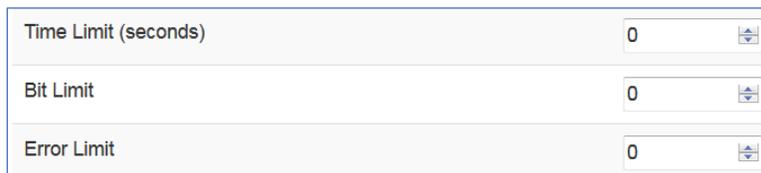

Figure 111: BERT-Time, Bit, and Error Limit Selections
- Bit Limit – Sets a specific number of total received bits, as shown in Figure 111; the measurement completes when the selected number of bits has been received
- Error Limit – (Bits) – Sets a specific number of bit errors, as shown in Figure 111; the test completes when the selected number of errored bits has been received